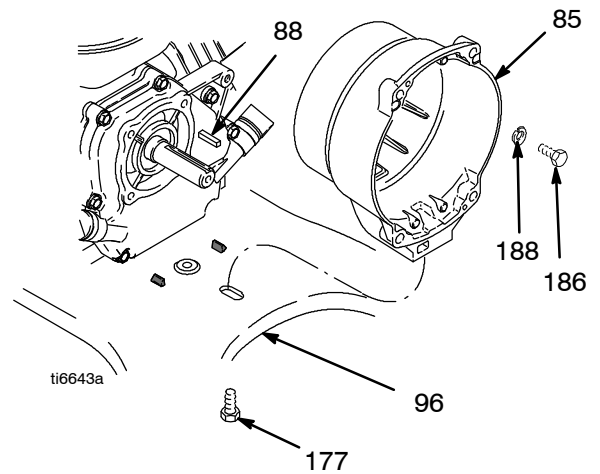

Fig. 10
1. Fig. 10. Remove four cap screws (186) and lock washers (188) which hold clutch housing (85) to engine.
2. Remove screw (177) from under mounting plate (96).
3. Pull off clutch housing (85).
1. Fig. 10. Push on clutch housing (5).
2. Install four cap screws (186) and lock washers (188) and secure clutch housing (85) to engine. Torque to 200 in-lb (22.6 N•m).
3. Install cap screw (177) from beneath mounting plate (96). Torque to 26 ft-lb (35.2 N•m).